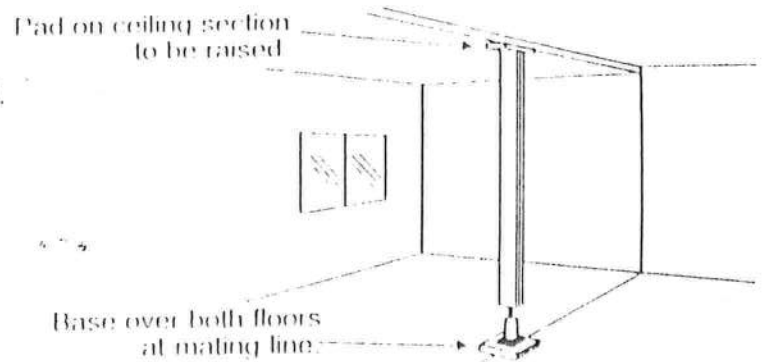

FIG. 5-8
7. Prior to interconnecting the ridge beam halves, examine the ridge beam ends. Should there be a slight misalignment it can be eliminated by placing a jack under the low side of the main beam on one half and use the jack to raise the beam. The alignment can be held by properly bolting or lag screwing the beam halves together. See Fig. 5-8.